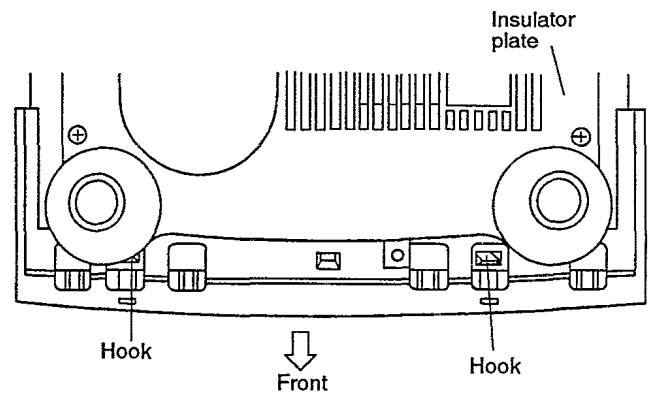

Fig. 5-4 Bottom view
3. Remove two hooks in the lower position of front panel and pull the front panel towards you. (See Fig. 5-4.)